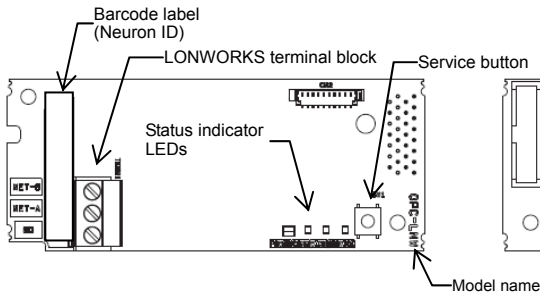

Figure 2-1 Front of the Interface Card
- (1) A LONWORKS interface card is contained in the package.
- (2) The interface card has not been damaged during transportation--no defective electronic devices, dents, or warp.
- (3) The model name "OPC -LNW" is printed on the interface card. (See Figure 2-1.)
- (4) A barcode label (representing Neuron ID) is attached to the interface card. Another barcode label (not attached to the card) comes with the card.